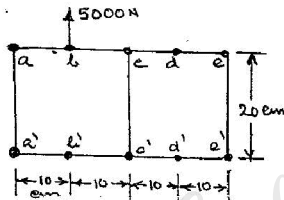

Fig.5
14. (a) Find the shear flow for the two cell structure shown in fig.5. The stringer areas are $a = a' = 4 \text{ cm}^2$, $c = c' = e = e' = 2 \text{ cm}^2$, $b = b' = d = d' = 1 \text{ cm}^2$. The vertical webs a-a' and e-e' have 1.5 mm thickness and the remaining walls have 1 mm thickness each.